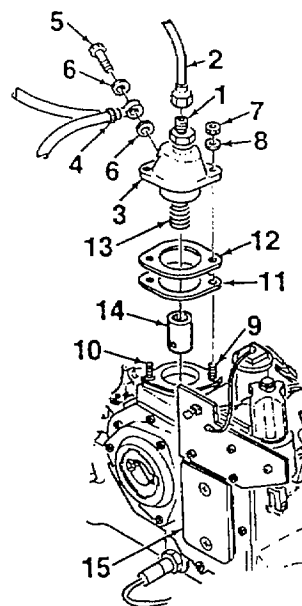

Figure 5-4. Fuel Injection Pump
1. Hold delivery valve (1, Figure 5-4) in place using a wrench. Disconnect fuel pipe (2) from fuel injection pump (3).
2. Disconnect fuel line (4) from fuel injection pump (3) by removing banjo bolt (5) and washers (6).
3. Loosen nuts (7). Rotate engine flywheel to relieve pressure on fuel injection pump.